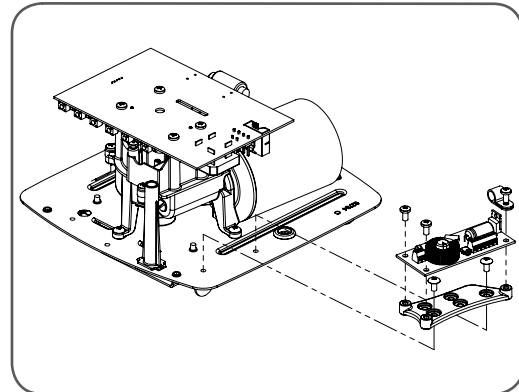

Fig 51
- Mount the PCB support with two screws. Secure the SBY-3 charger board on to PCB support with 3 screws. (**Fig. 51**).